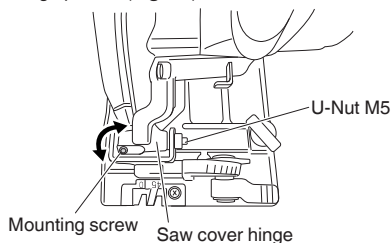

Fig. 19
(1) Unfasten only the mounting screws of the saw cover hinge portion (Fig. 19).